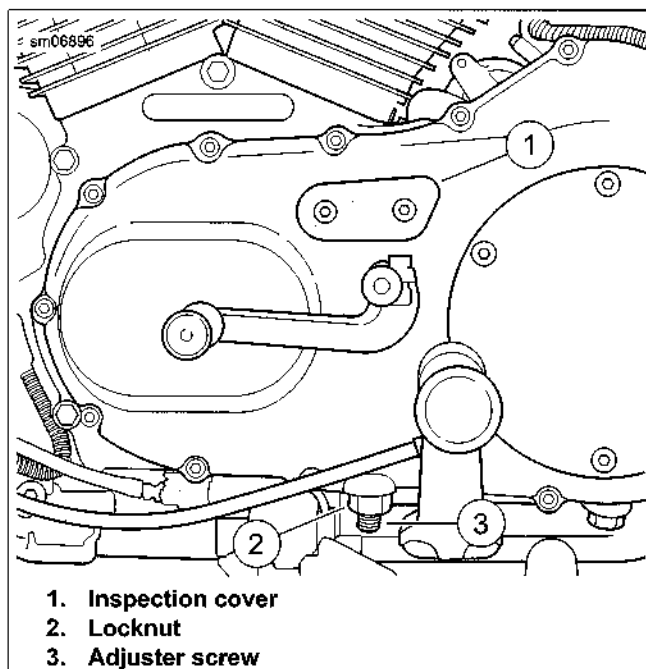

Figure 1-13. Primary Chain Inspection Cover and Adjuster
2. See Figure 1-13. Remove the primary chain inspection cover (1).
- a. See Figure 1-13. Loosen the locknut (2).
- b. With a hex key, turn the adjuster screw (3) clockwise to reduce free play or counterclockwise to increase free play.